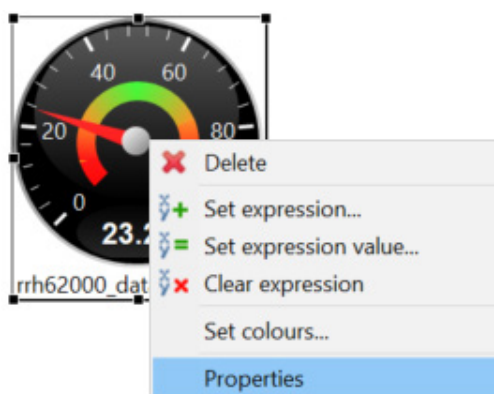

Figure 24. Gauge Properties
9. Right-click on the GAUGE and select **Properties** (see Figure 24).